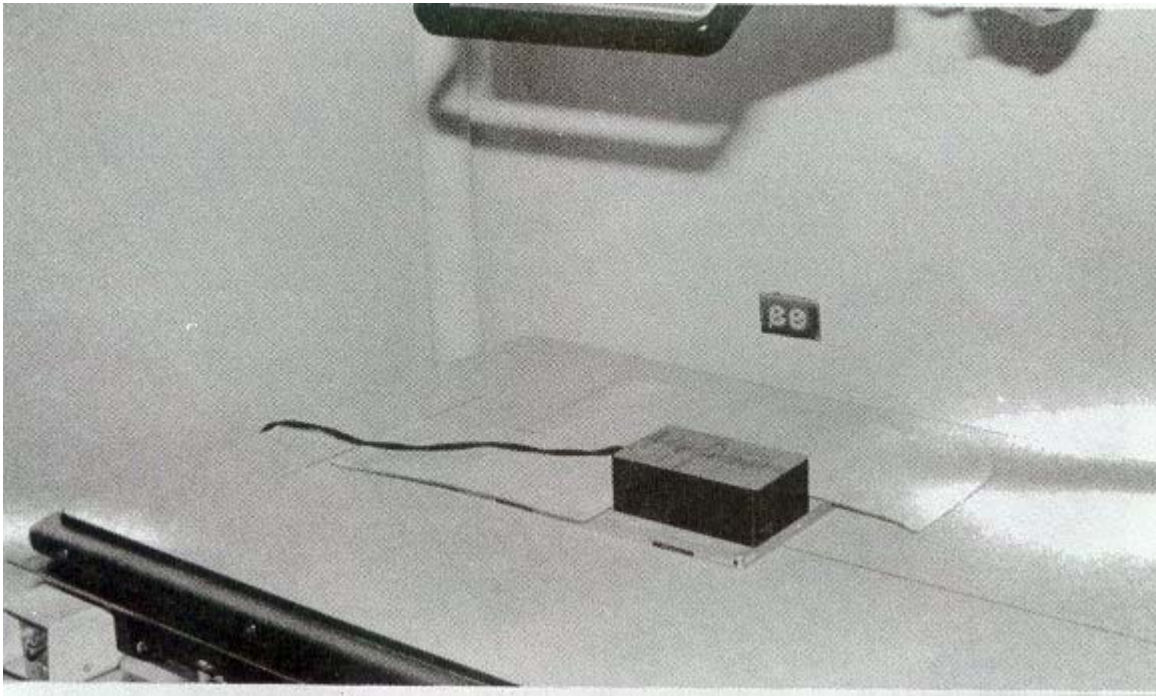

Figure 4-9. Third exposure.
- (c) 200 mA at 1/20 second (see figure 4-9).